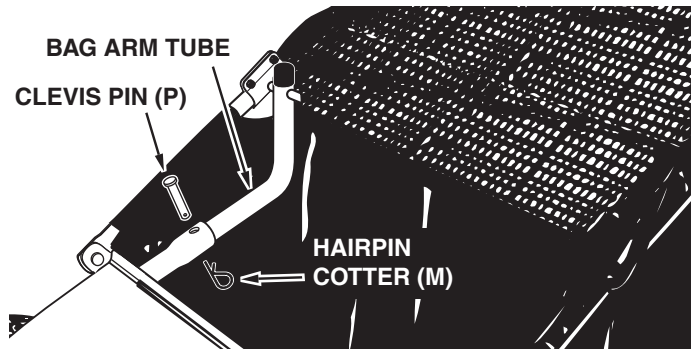

FIGURE 19
- To attach the hopper bag to the sweeper, slide the ends of the bag arm tubes into the ends of the hitch tubes and secure with two clevis pins (P) and hairpin cotters (M). See figure 19.